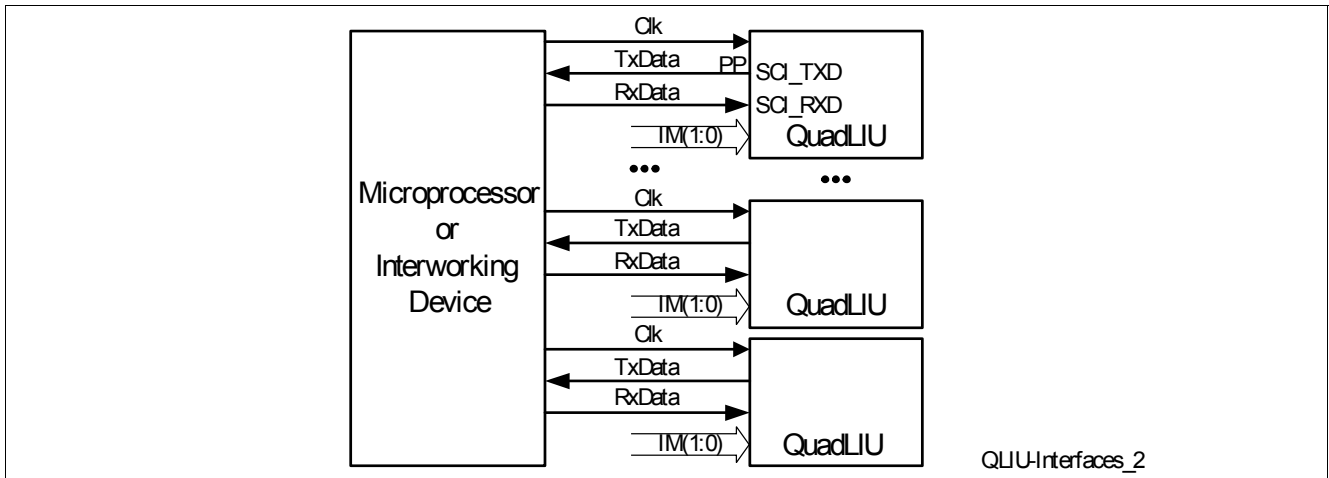
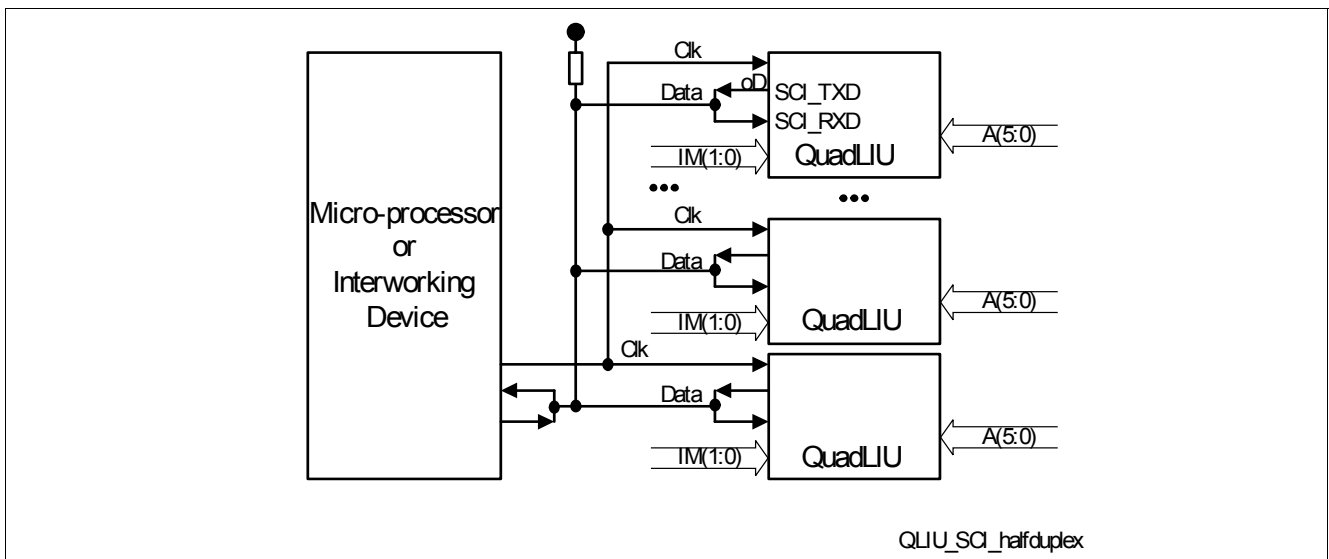

Figure 10 SCI Interface Application with Point To Point Connections
Figure 11 SCI Interface Application with Multipoint To Multipoint Connection
Figure 10 shows a first application using the SCI interfaces of some QuadLIU™s where point to point full duplex connections are realized between every QuadLIU™ and the micro controller. Here the data out pins of the SCI interfaces (SCI\_TXD) of the QuadLIU™s must be configured as push-pull (PP), see configuration register bit PP in Table 9.
Figure 11 shows an application with Multipoint to multipoint connections between the QuadLIU™s and the micro controller (half duplex). Here the data out pin of the SCI interfaces (SCI\_TXD) of all QuadLIU™s must be configured as an open Drain (oD), see configuration register bit PP in Table 9. The data out and data in pins (SCI\_RXD, SCI\_TXD) of each QuadLIU™ are connected together to form a common data line. Together with a common pull up resistor for the data line, all open Drain data out pins are building a wired And.
- Arbitration always made with LAPD (only SCI applications like in Figure 10 and Figure 11 are possible), bit ARB = '0'.